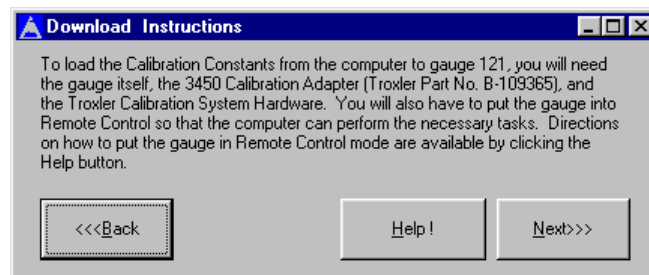

Figure 3–17. Download Instructions Window for Troxler Calibration Control System
11. The software now prompts the user to select the serial communications (Com) port settings for the computer. This display is similar to the one shown in Figure 3–6 on page 3–14. It is important that the baud rate of the gauge matches the baud rate of the computer. Select the desired Com port and baud rate from the dropdown lists and click **<Select>**, or click **<Back>** to return to the previous display.